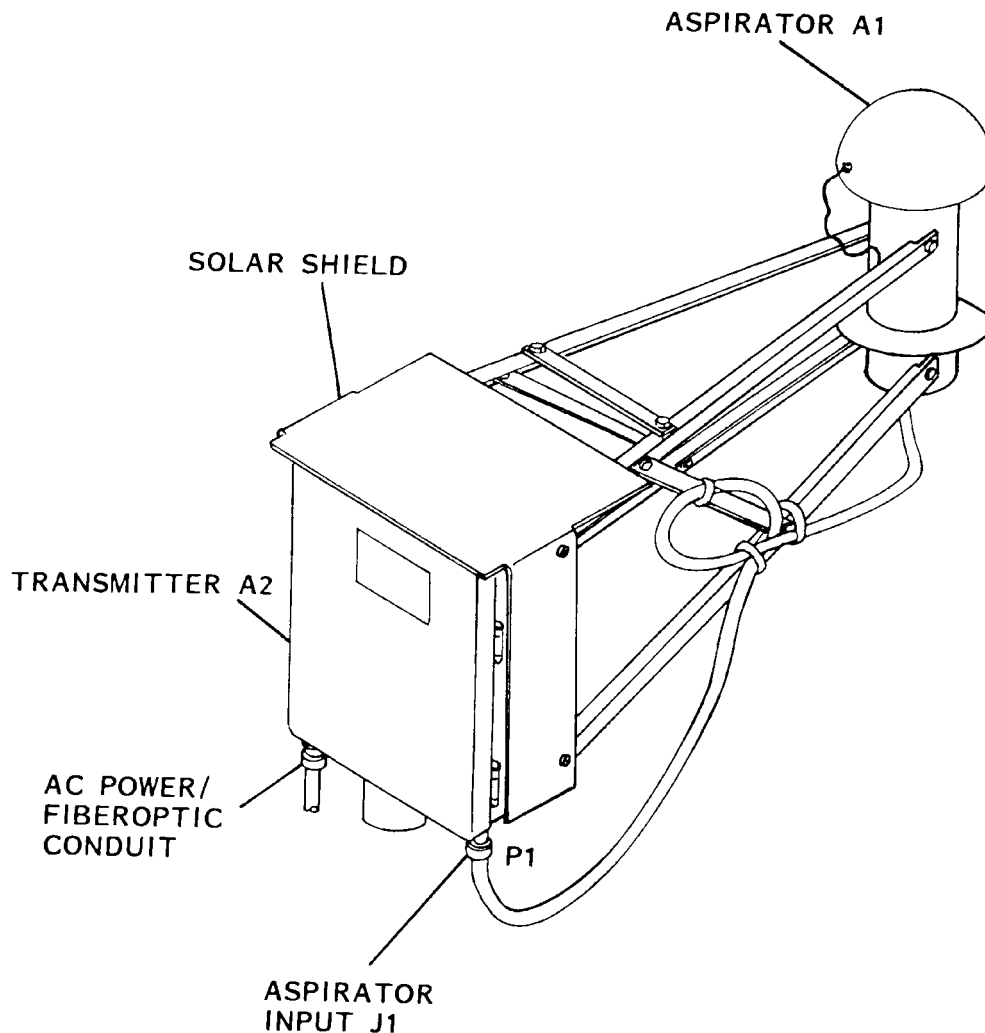

Figure 5.1.1. Temperature/Dewpoint Sensor Major Components
5.1.2.2 Physical Components. Each of the sensors consists of two separate components, as shown in figure 5.1.1: an aspirator and a transmitter. The aspirator is mounted to the transmitter via a mounting bracket assembly. The transmitter is mounted to the sensor mounting pole via a 3-3/4 circular mounting sleeve. The transmitter is connected to the data collection package (DCP) via a power cable and two fiberoptic cables. The DCP receives temperature, dewpoint, and diagnostic data (model 1088 only) from the sensor via the fiberoptic cables. The DCP formats the temperature/dewpoint measurement data and diagnostic data and transmits these data to the acquisition control unit (ACU) via either line drivers or an rf communications link. The ACU processes the measurement data via the measurement algorithm and outputs the measurement results to the various ASOS peripheral devices.